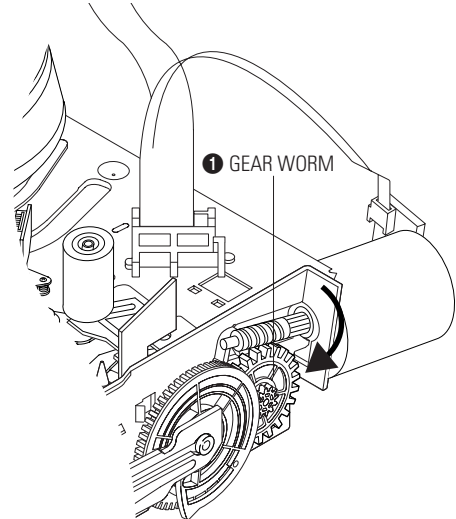

Fig. 1-35
- 3) Rotate Gear Worm ❶ clockwise using screw driver again up to the state of eject mode and then pick out the tape. (Refer to Fig.1-35)